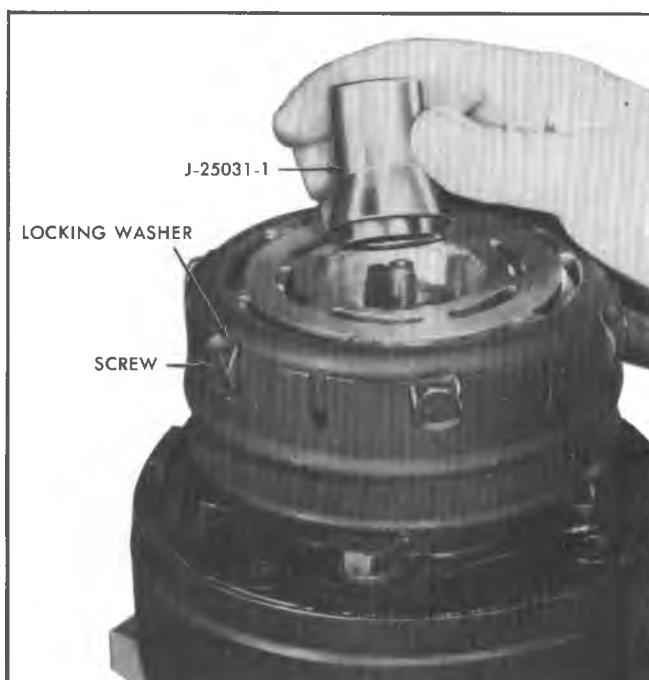

Fig. 77--Installing Rotor and Bearing Puller Guide
2. Remove rotor and bearing assembly retaining ring using snap ring pliers J-6083 (Fig. 76). Mark the location of clutch coil terminals. If clutch rotor and/or rotor bearing only are to be replaced, bend the lockwashers away from pulley rim mounting screws (Fig. 77) and remove the six mounting screws and special lockwashers before proceeding with Step 3. Discard special lockwashers.
3. Install rotor and bearing puller guide J-25031-1 over the end of compressor shaft and seat on the front head of compressor (Fig. 77).